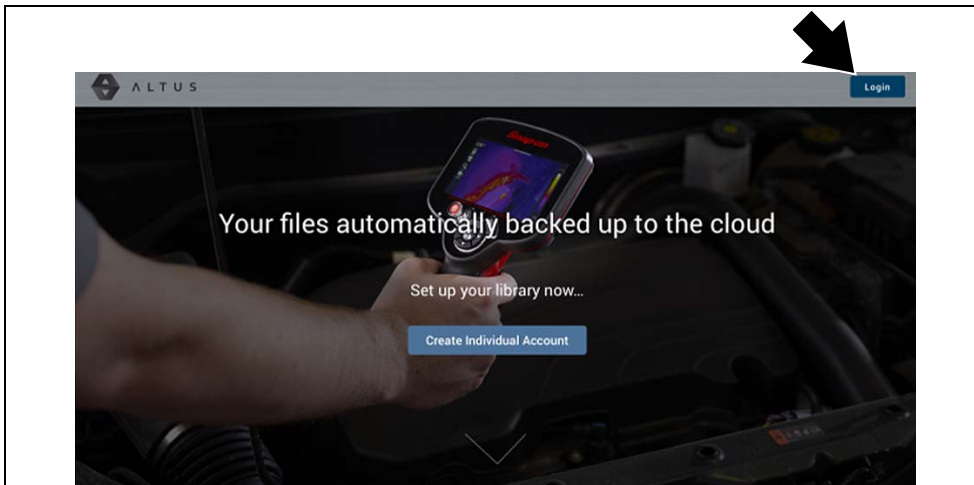

Figure 14-4
2. Select the **Login** icon (Figure 14-4).